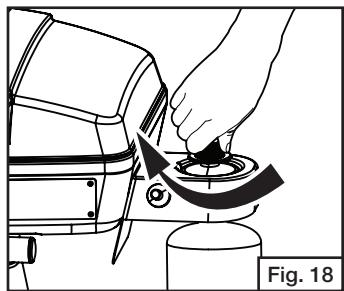

Fig. 18
- Before attaching propane cylinder make sure burner knob is in the OFF position. (Fig. 18)